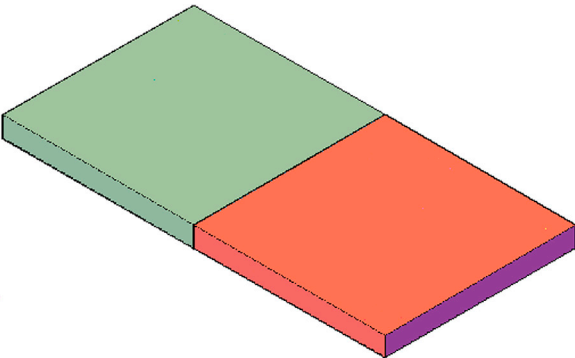

FIGURE 22.8 Flat plate mirrored over the ZX plane.
Step 5. This is similar to the 2D version of the mirror command. Press Enter for the default. The mirrored image appears as shown in Fig. 22.8.